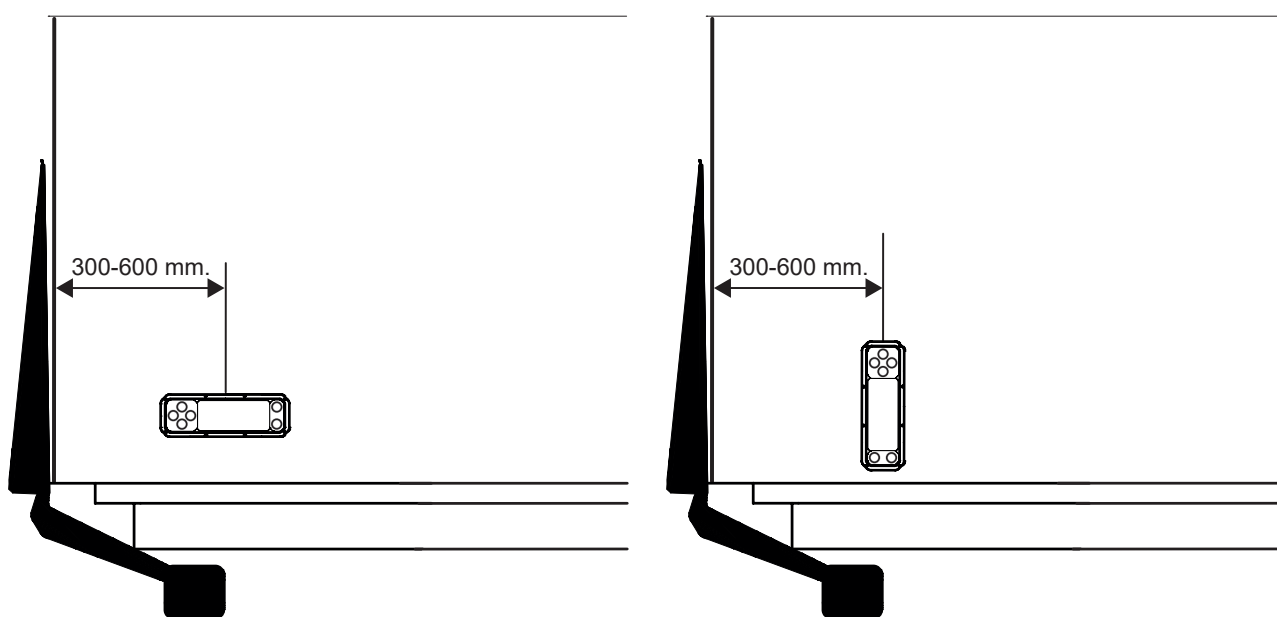

Figure 49. Installing controllers
5. Then install the controller securely on the body. See Figure 49